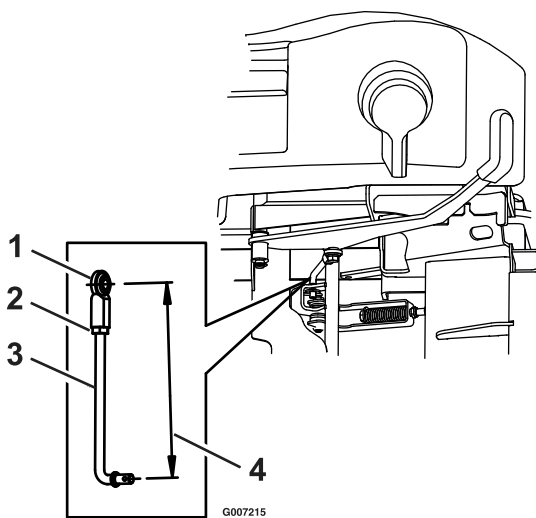

Figure 16
9. If park brake does not fully disengage when the lever is disengaged check the brake rod linkage assembly. The assembly should measure 7 3/8 inches (18.7 cm) from the center of the ball joint to the center of the lower end of the linkage rod (see Figure 16).